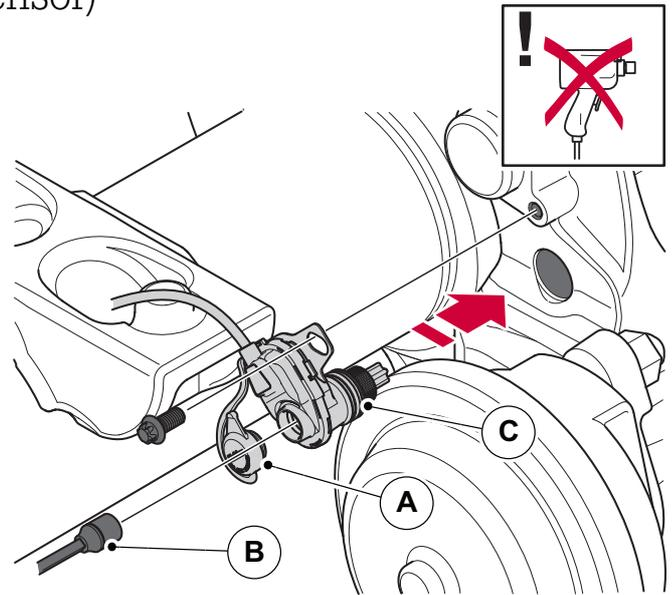

Figure 96. PWS/PWIS sensor
To manually adjust or de-adjust the brake for changing the Pads, remove the protection plug (A) and use a standard 8 mm socket tool (B) can be used (see figure 96).